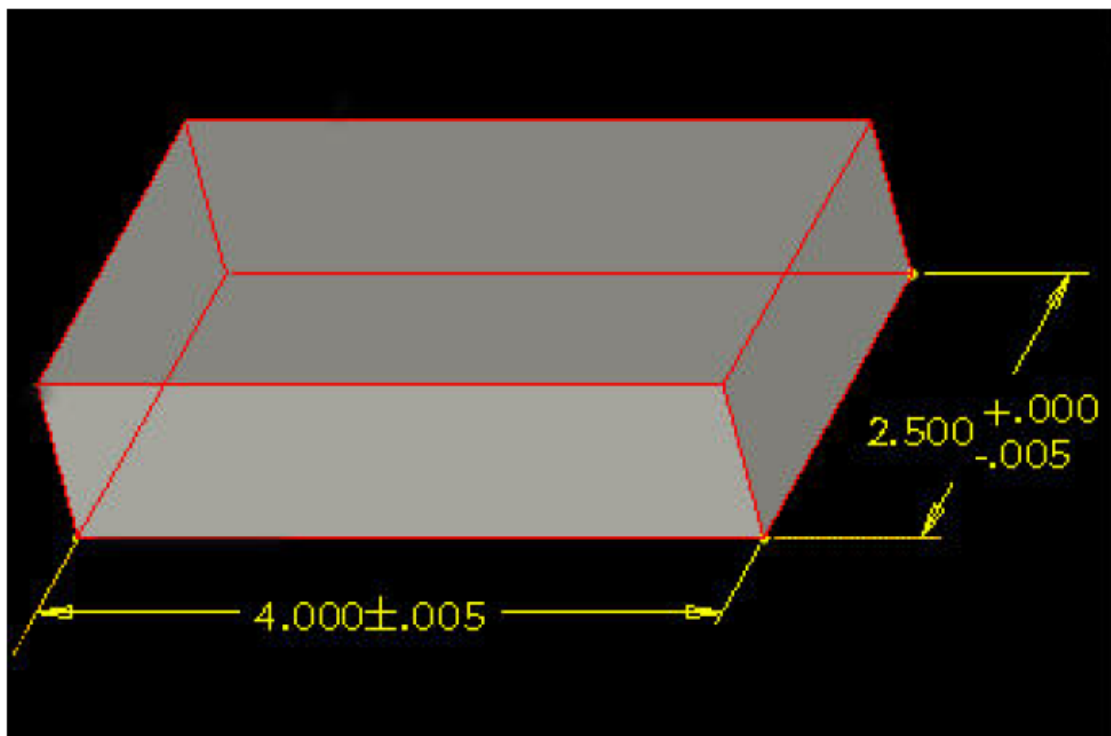

Figure 14 – Examples of Bilateral and Unilateral Tolerancing, Source: Pro CNC Inc.
- Bilateral tolerancing (also known as symmetric tolerancing) is a method of tolerancing a dimension using equal plus and minus deviations from the nominal dimension. Unilateral tolerances (also known as asymmetric tolerances) on the other hand specify a deviation in only one direction, either plus or minus, from the specified nominal dimension. Unilateral tolerances may also take the form of plus and plus-plus, minus and minus-minus, or plus or minus some amount and plus or minus a lesser amount. Nearly all CNC machines these days are programmed from a 3D CAD model using CAM software. The programmer chooses edges or surfaces on the model to drive toolpaths. Figure 14 shows a basic rectangle with one side having a bilateral tolerance and the other having a unilateral tolerance.
This is a pretty common example. In this case, the easiest way to program and manufacture this part is with a profile cut from the top of the part which establishes both the 4.000" and 2.500" dimensions at the same time with the same cutter. The CNC program by default will drive the tool at the nominal size of the CAD model. It will create a rectangle that is 4.000" x 2.500". But the sides with a 2.500" dimension will be practically out of tolerance as programmed since we cannot be on the plus side of nominal at all. And with the typical small amount of cutter deflection outward, the 2.500" dimension will likely be out of tolerance. This makes the programming of the part take much longer as the programmer will have to compensate for this with manual adjustments to the program, adjustments to CAM parameters or a separate program with tool paths for each side. The set-up of the part on the CNC machine may also take longer if the machinist needs to apply cutter compensation in order to bring the part closer to the middle of the tolerance zone. In an extreme example, if you had a tolerance of + 0.005"/- 0.000" on the 4.000" dimension, it would be virtually impossible for either dimension to be in spec without major tweaking to the program. This brings up the other point about unilateral tolerances. Most CNC shops want to run the dimensions in the safest range to minimize the chance of scrap. So in the case of the part in Fig. 14, they would likely try to run the 2.500" dimension at 2.4975" which is exactly in the middle of the + 0.000"/ - 0.005" range. This somewhat defeats the purpose of specifying a unilateral tolerance in the first place. It would be easier for everyone involved if the engineer put a symmetric bilateral tolerance at 2.500" or 2.497" because more than likely it is what will be delivered anyway.